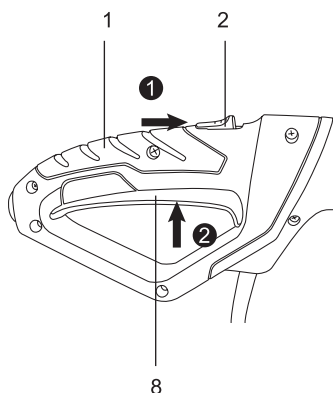

Fig. 24
1. Ensure the saw chain (14) does not come into contact with anything before starting the product.
2. Grip the product with both hands, your left hand holding the gripping surface (9) and your right hand holding the rear handle (1). Do not start the product while handling it with one hand.
3. Push the lock-off button (2) forward with your right thumb, then fully depress the on/off switch (8) with your index fingers and hold it in this position.(Fig. 24)